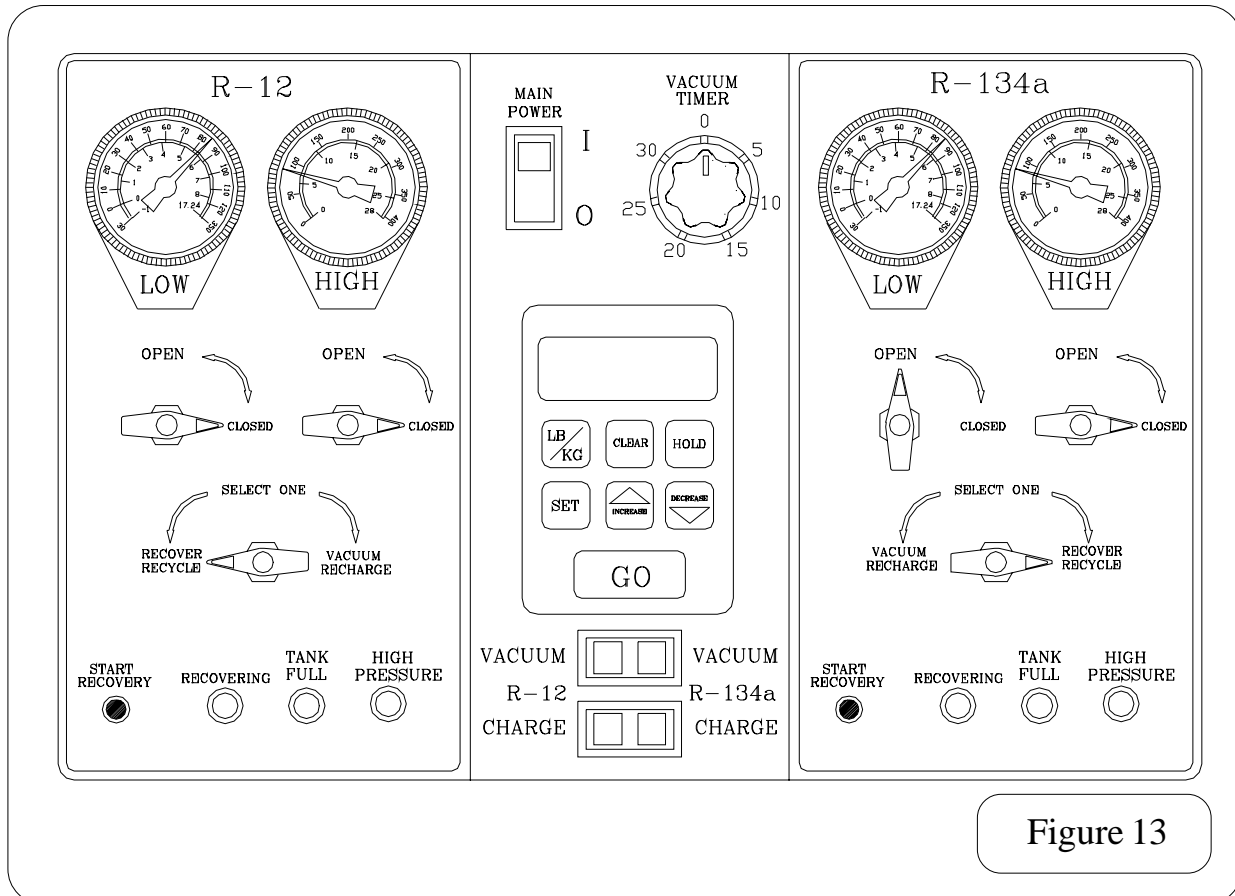

Figure 13
7. Open the low side manifold valve on the control panel (R-134a side). (Refer to Figure 13.)
8. Turn selector valve on the R-134a side to Recover/ Recycle. (Refer to Figure 13).